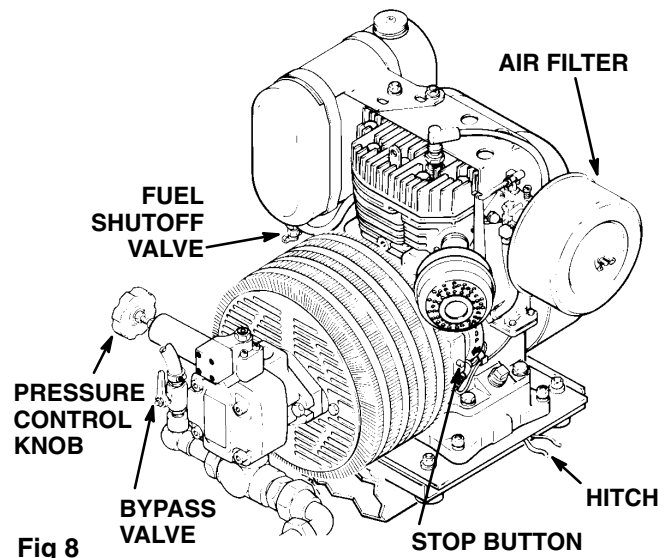

Fig 8
- a. Open the bypass valve to make startup easier. In the open position, the valve lever is parallel to the body of the valve. See Fig 8. Close the filter drain valve.
- c. Open the fuel shutoff valve by screwing it out as far as it will go. See Fig 8.
- e. Disengage the foot brace from the hitch and lower it. See Fig 8.
- g. After the engine is warm, gradually open the choke lever (turn to OFF position) and close the bypass valve. See Fig 8 and 9.
To stop the engine in an emergency , depress the engine STOP button. Close the bypass valve if possible. See Fig 8. Then follow the **Pressure Relief Procedure Warning** on page 8.
- f. Squeeze the trigger and *slowly* turn the pressure control knob *clockwise* just enough to start the pump. See Fig 8.